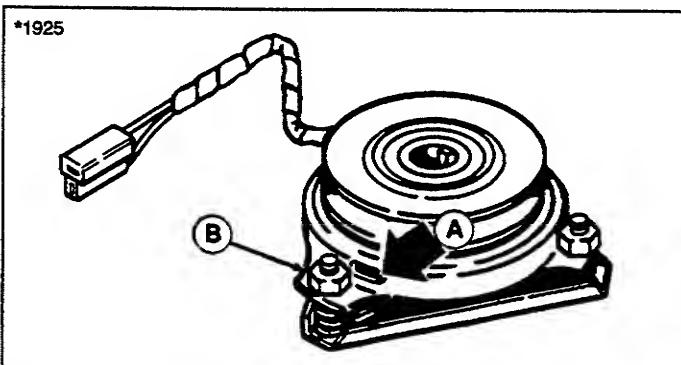

**Figure 34. Clutch/Brake Adjustment**
2. The clutch rod spring (A, figure 34) should measure 1-3/16" to 1-5/16" along the long side, between insides of washers. Tighten or loosen nut (B, figure 34) to adjust.
3. Pull the brake rod (C, figure 34) toward front as far as possible. Tighten or loosen nut (D, figure 34) to achieve a gap of 3/8" between rear surface of nut and the guide (E).